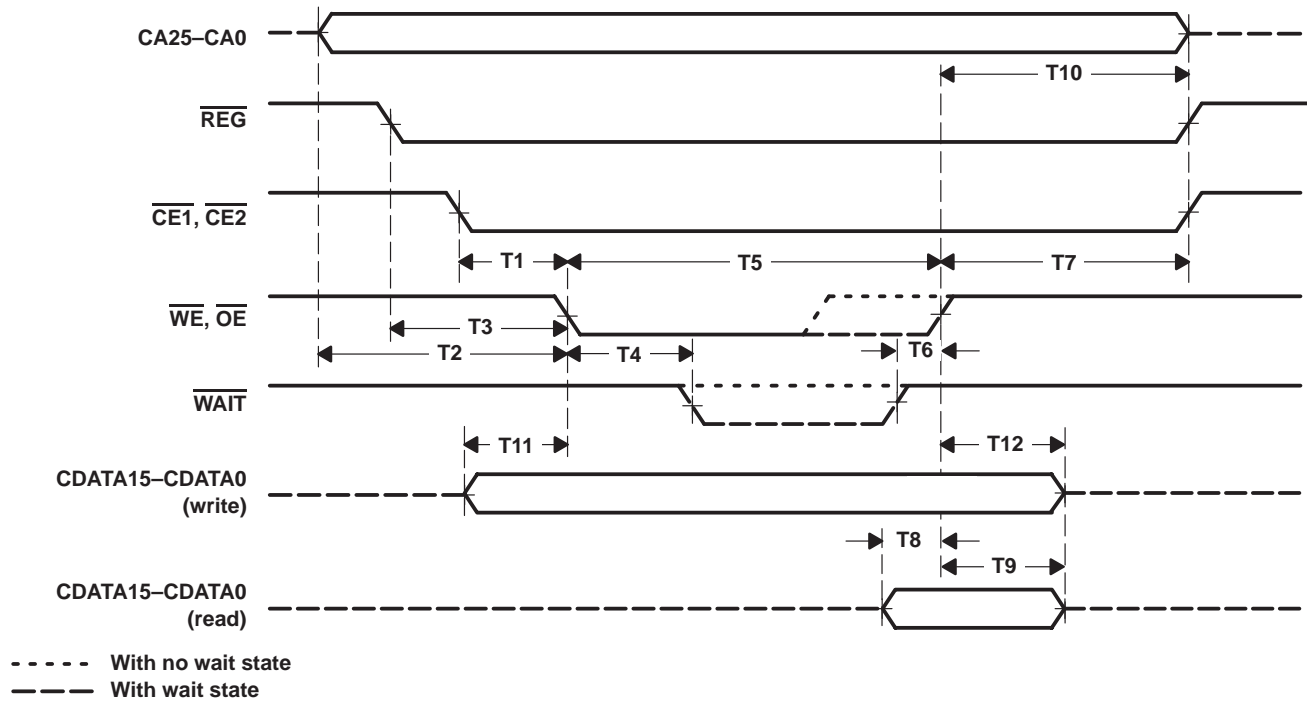

Figure 24. PC Card Memory Cycle
**timing requirements over recommended ranges of supply voltage and operating free-air temperature, memory cycles (for 100-ns common memory) (see Note 5 and Figure 24)**